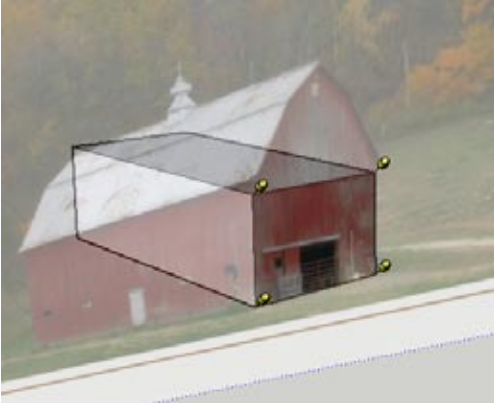

Figure 9-35
3. Position this material by using free pins, placing one pin at each corner of the rectangular part of the barn's front and dragging the pin to the corner of the model face (Figure 9-35).